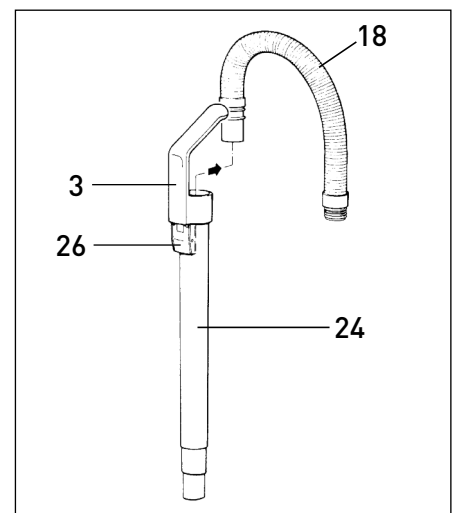

Figure 15
Clogs in the Attachment Tube (Active Wand) - Figure 15
Remove attachment hose (18) from vacuum cleaner (see figure 15) and remove front cover (21). Clean out connecting tube (29) and/or entrance to bag (45).